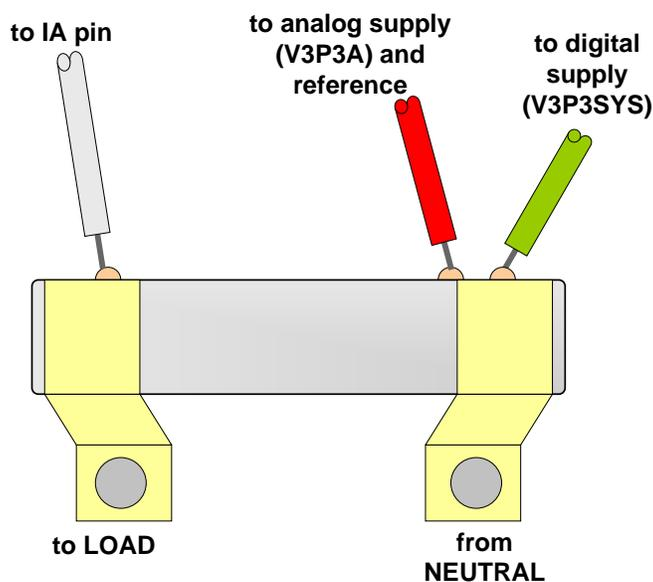
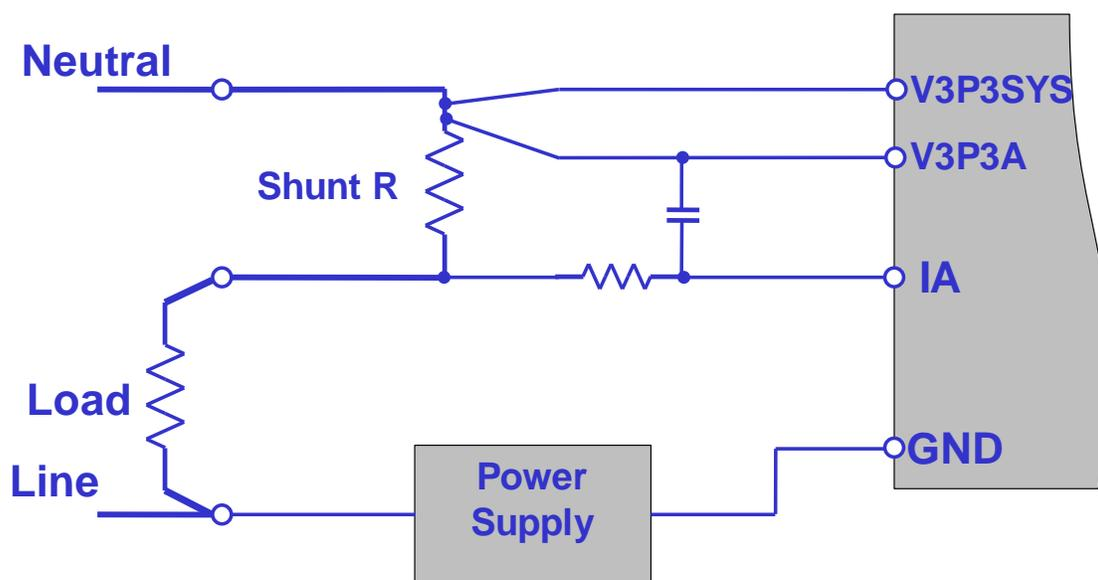

Figure 12: Shunt Connections
Figure 13: Current Shunt Circuit Topology
- 7) The V3P3A net should be connected to V3P3SYS right at the shunt resistor. This is the preferred arrangement (see Figure 12). If this is not possible, the two nets should be joined as soon as they enter the PCB. V3P3A and V3P3SYS should only be connected at one point and otherwise always routed separately (see Figure 13).
- 9) Shunt resistors with three tabs (terminals) should be used (see Figure 12). Commercially available shunt resistors have two tabs on one side and one tab on the opposing side.